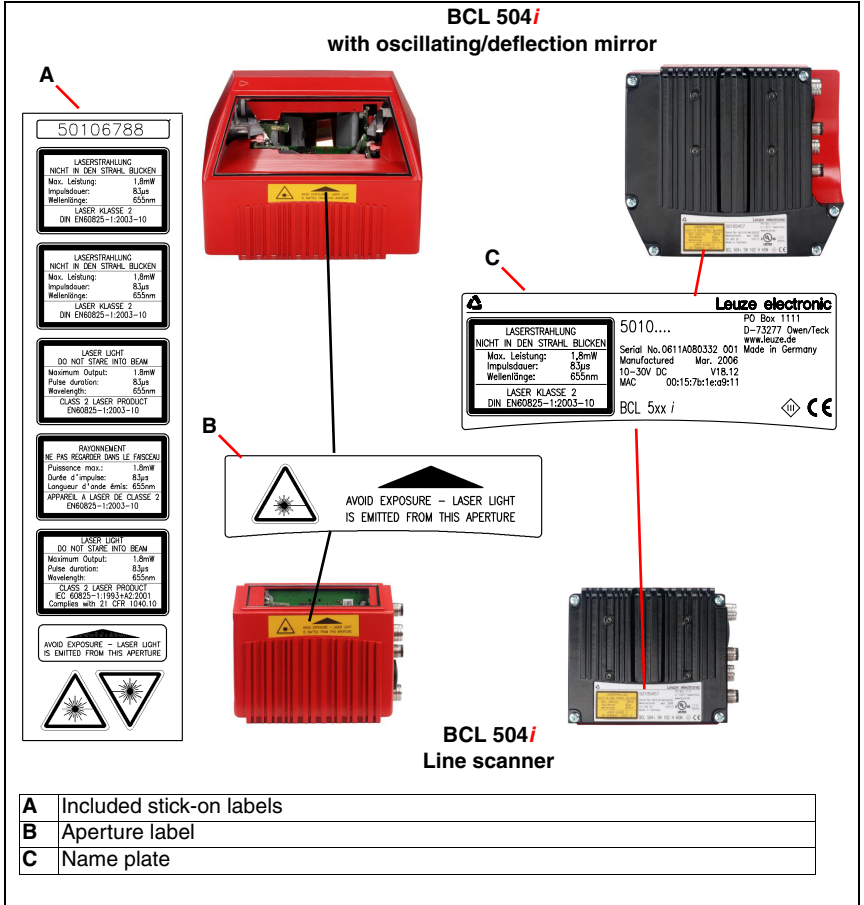

Figure 2.1: Attachment of the stick-on labels with warning notices at the BCL 504*i*
*It is important that you attach the stick-on labels supplied to the device (A in figure 2.1)! If the signs would be covered due to the installation situation of the BCL 504*i*, attach them instead in the immediate vicinity of the BCL 504*i* in such a way that it is not necessary to look into the laser beam when reading the notices!*